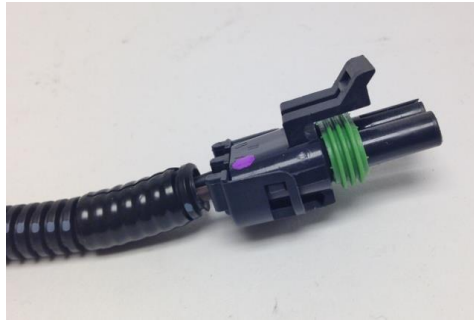

Figure 17 - Washer Pump Connection
23. The Detroit Speed Selecta-Speed harness does include a weather pack connector to install an optional electric inline washer pump into your vehicle (Figure 17). Detroit Speed does offer a washer pump kit you can purchase separately as part number 121102.